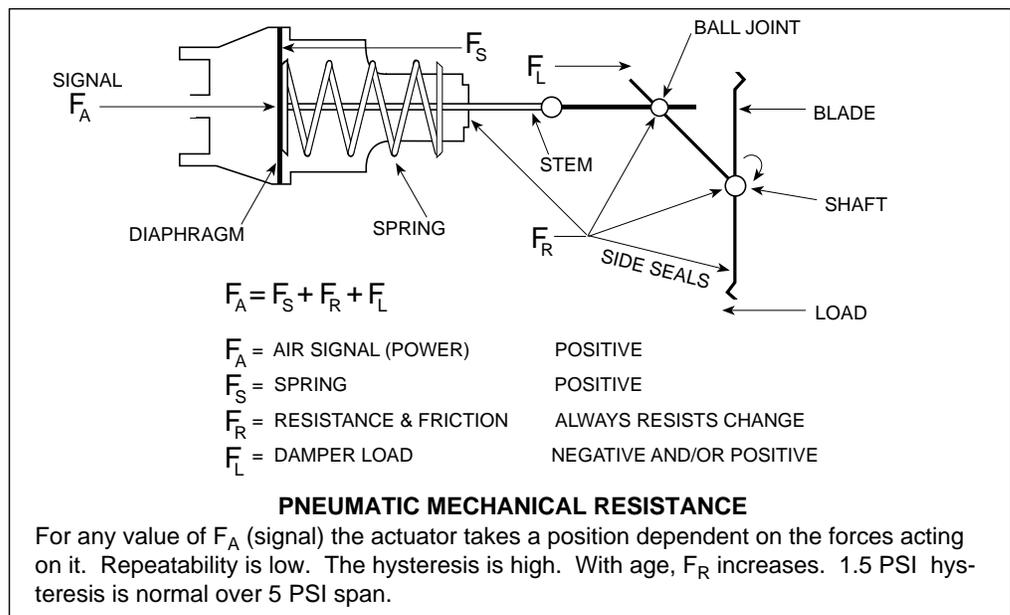

Fig. 2
On the other hand, depending upon which pneumatic actuator manufacturer's specifications are consulted, the gradual operation damper area is from 50%-20% of that recommended for 2-position operation. This is because the hysteresis of the pneumatic actuator is 1.5 PSI over the 5 PSI spring range. Further loading of the actuator will increase the hysteresis. Figure 2 shows the main points which cause mechanical resistance (F). Binding of stem against the hole through which it passes, linkage stiffness, axle bind and side seals cause delay in movement.